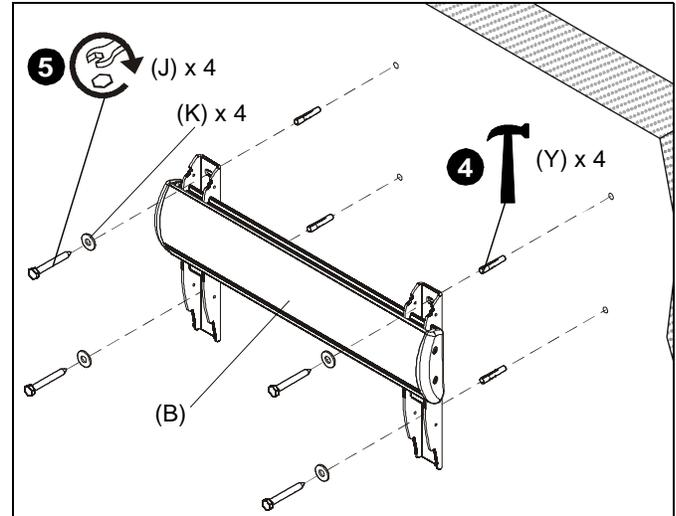

Figure 2
4. Install four concrete anchors (Y) into drilled holes. (See Figure 2)
5. Install four 5/16 x 2-1/2" hex head lag screws (J) through four 5/16" washers (K), outer holes of mounting bracket (B) and into concrete anchors (Y). (See Figure 2)